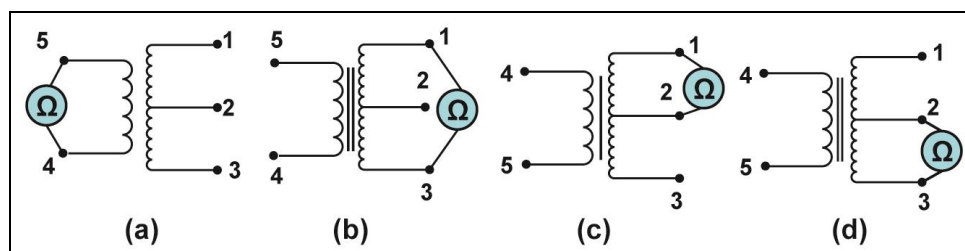

Fig. 1-2 Measure DC Resistance of Each Winding
4. Referring to Fig. 1-2(a), using an ohmmeter, measure the DC resistance of the winding between pins 4 and 5. We will call this resistance R_{4-5} .
5. Measure the resistance between pins 1 and 2, as shown in Fig. 1-2(c). We will call this resistance R_{1-2} . ($R_{1-2} = \underline{\hspace{2cm}}$ Ohms)
6. Measure the resistance between pins 2 and 3, as shown in Fig. 1-2(d).
7. Measure the resistance between pins 2 and 3, as shown in Fig. 1-2(d).